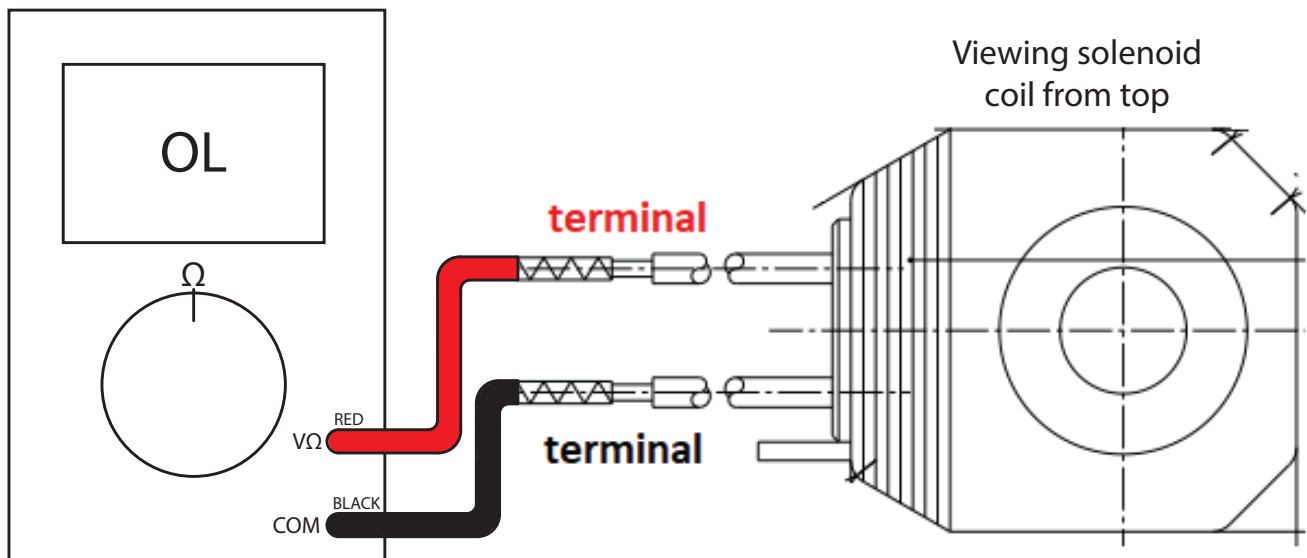

Figure A1-4: Testing 230V Solenoid Coil - Step 2
Step 2: Connect the RED multimeter lead to the upper lead from the coil (viewed from the top). Refer to Figure A1-4.